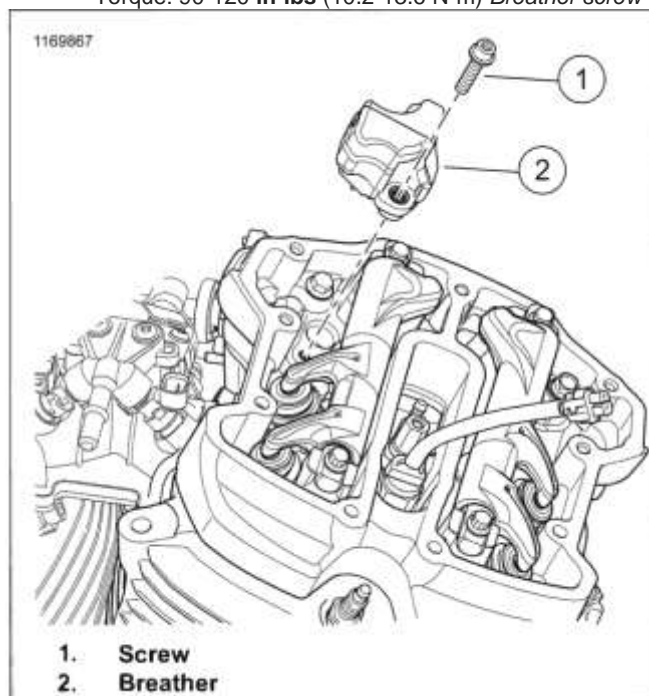
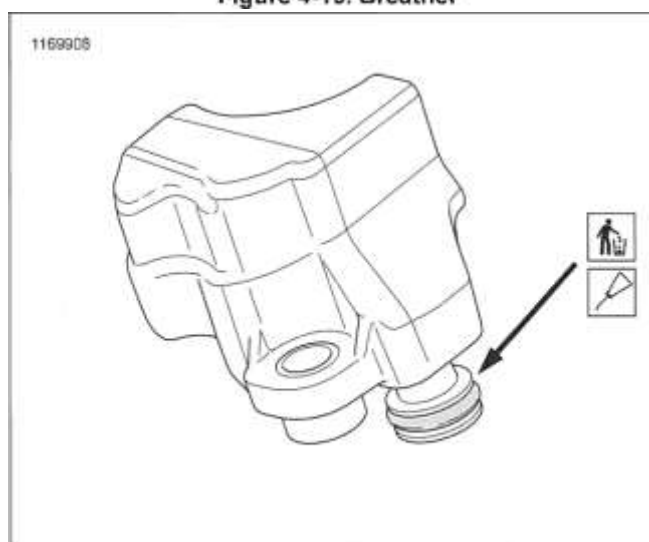

Figure 4-19. Breather
Figure 4-20. Breather O-ring
1. See Figure 4-19. Remove screw (1).
2. Remove breather (2).
3. See Figure 4-20. Discard O-ring.
1. See Figure 4-20. Lubricate **new** O-ring.
3. See Figure 4-19. Install breather (2).
4. Install screw (1). Tighten.